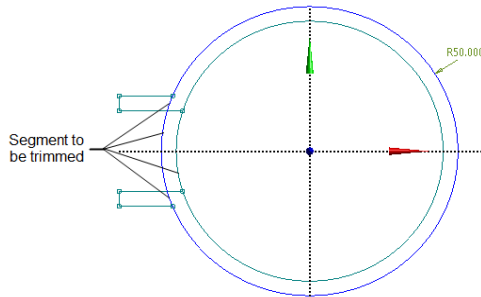

Figure 3-97 Segments of the circle to be trimmed
33. Select the **Ignore axis** check box displayed on the right of the **Trim** tool and click on the segments one by one, marked in Figure 3-97; the selected segments is trimmed and you get the sketch shown in Figure 3-98.